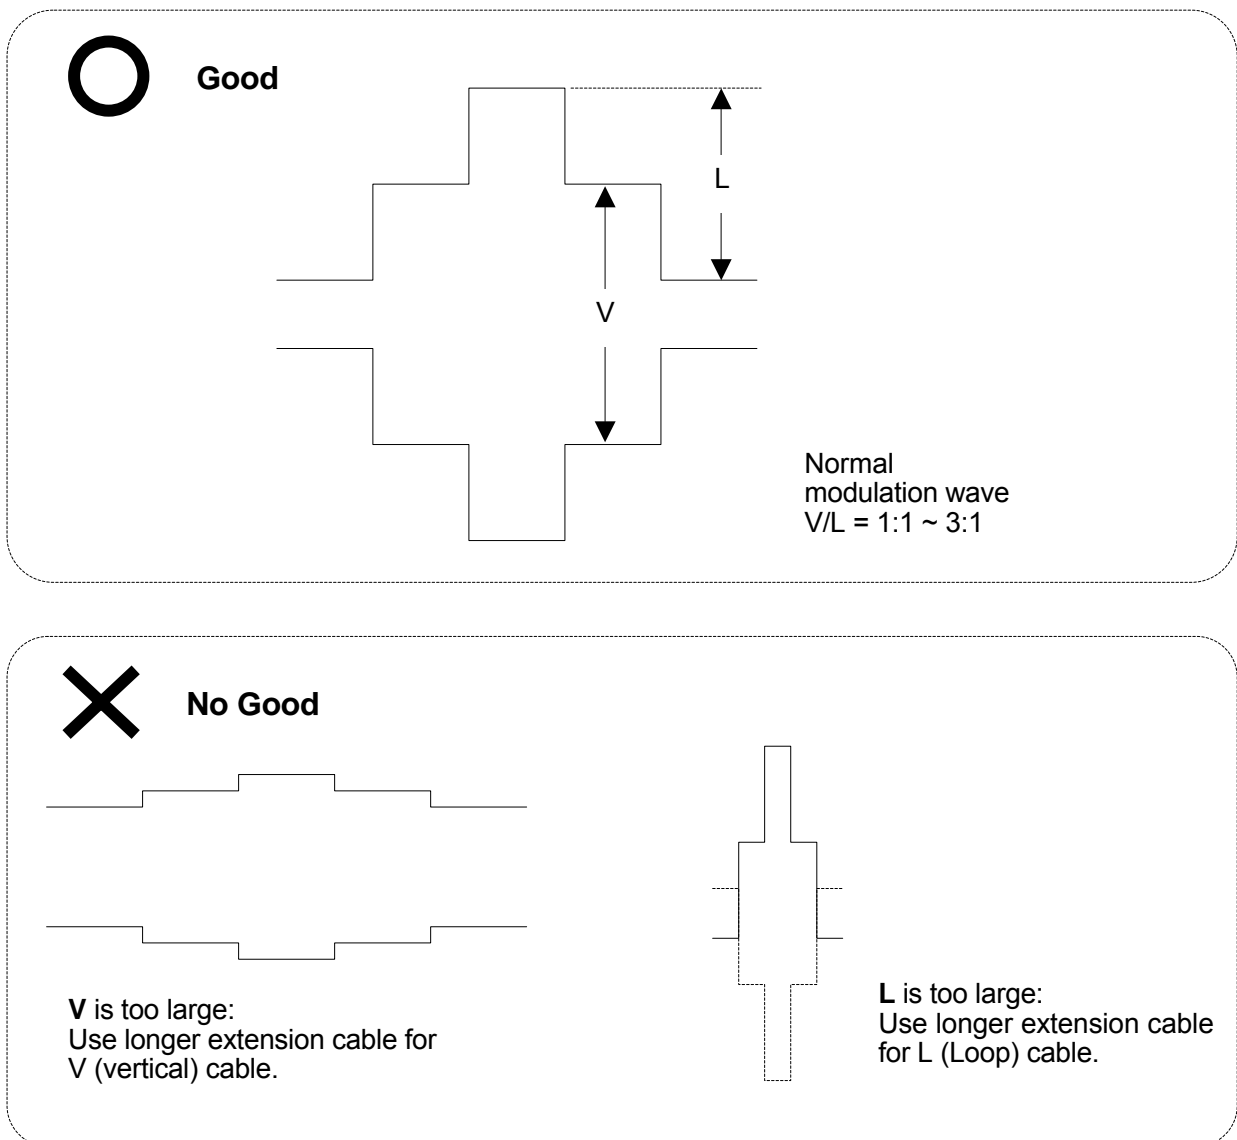

Fig. 16 Balanced modulation wave
- (5) Change the length of extension cable so that the ratio of BM wave form between vertical and loop shall be in the ratio ranging between 1 (V) : 1 (L) and 3 (V) : 1 (L), when TD-L1630 receives transmitting radio wave from 45 degrees of heading. (Refer to Fig.16)
Caution: If radio emission source is not 45 degrees from the heading of mother ship, shape of Balanced Modulation Wave (Fig.16) is displayed on the oscilloscope improperly. Be sure to set the radio emission source at 45 degrees from the heading of mother ship.